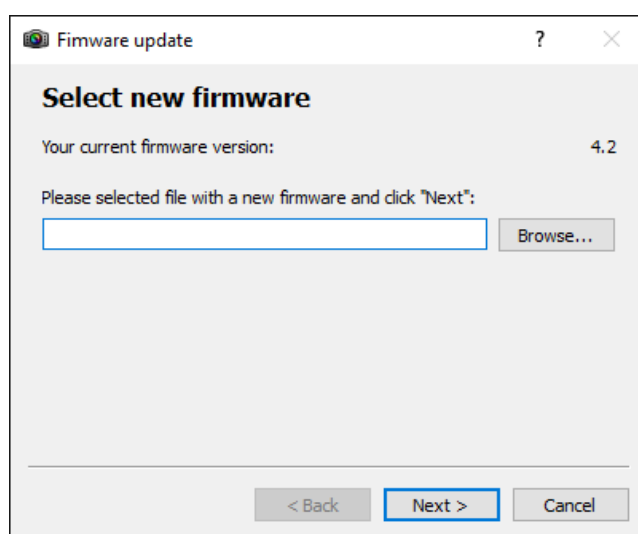

Figure 39 – Firmware update selection window
2. Click the "Browse..." button, as shown in Figure 39, and select the desired firmware update file, in accordance with the device chosen (.bin file extension), and Click the "Next >" button.